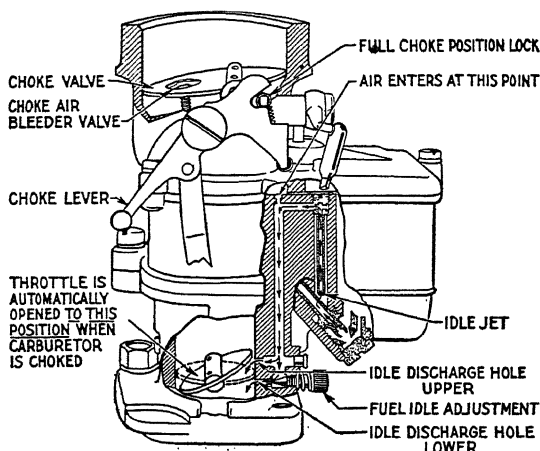
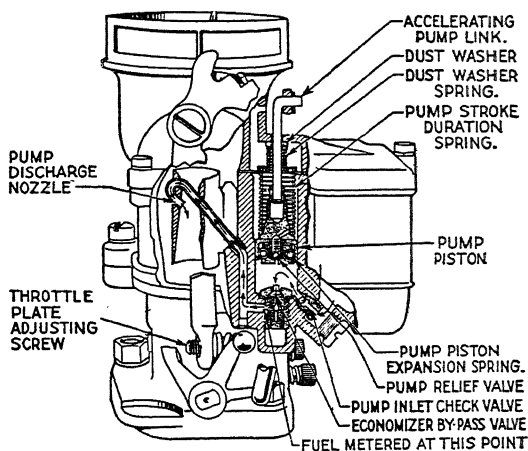

Fig. 120. Ford "V-8" Carburetor
Fig. 122. Accelerating Pump of Ford "V-S" Carburetor
*Idling—Fuel Supply.* The fuel from the carburetor bowl passes through the main metering jet and is drawn upward as indicated by the arrows in Fig. 120. Air enters this gasoline stream from the carburetor throat, as shown. This mixture or emulsion of gasoline and air then travels downward to the idle discharge holes.
Fig. 120 (speed equivalent to from 5 to 7 miles per hour), the lower discharge hole only is subjected to intake manifold vacuum. The other idle discharge hole being above the throttle plate is not affected by this intake manifold vacuum and for this reason does not discharge any fuel with the throttle in this position. The lower idle discharge holes are provided with a means of adjustment (see fuel idle adjustment, Fig. 120).
matically open to the correct position for starting. For this reason it is neither necessary nor desirable for the operator to pull out the throttle button when starting. Fig. 120 illustrates the throttle plate position while the carburetor is choked. In this position the throttle plate is directly opposite the upper idle discharge hole and the stream of air passing around the throttle plate draws the fuel from both upper and lower discharge holes, whereas, in the normal idling position, as indicated by the dotted line, the fuel is drawn from the lower discharge hole only.
*Accelerating Pump.* An accelerating pump is provided to slightly enrich the mixture for rapid acceleration. Movement of either the foot or hand throttle causes movement of the accelerating pump. An accelerating pump inlet check valve is provided to prevent the accelerating pump from pumping the fuel back into the float bowl, Fig. 122. The pressure on the gasoline, exerted by the accelerating pump in its downward movement, opens the spring loaded valve directly beneath the spring loaded valve which is directly beneath the piston, and permits the gasoline to be forced out through the accelerating pump discharge tube and nozzle. However, a restriction has been provided to meter the gasoline and minimize the possibility of flooding.
*Adjusting.* The idle speed of the engine should be set by means of the throttle-plate adjusting screw, Fig. 122, to a speed equivalent to five miles an hour. For the idle mixture adjustment, have the engine well warmed up and be sure that there are no air leaks at the intake manifold, windshield wiper, and distributor vacuum connections. The idle speed should be set as outlined above. The fuel idle-adjustment needle valves, shown in Fig. 120, control the quantity of the gasoline-air mixture for low-speed operation. The turning out of the valves gives a richer mixture. The turning in of the valves gives a leaner mixture. Adjust one side of the carburetor at a time. Turn the valve in slowly until the engine begins to lag or run irregularly,